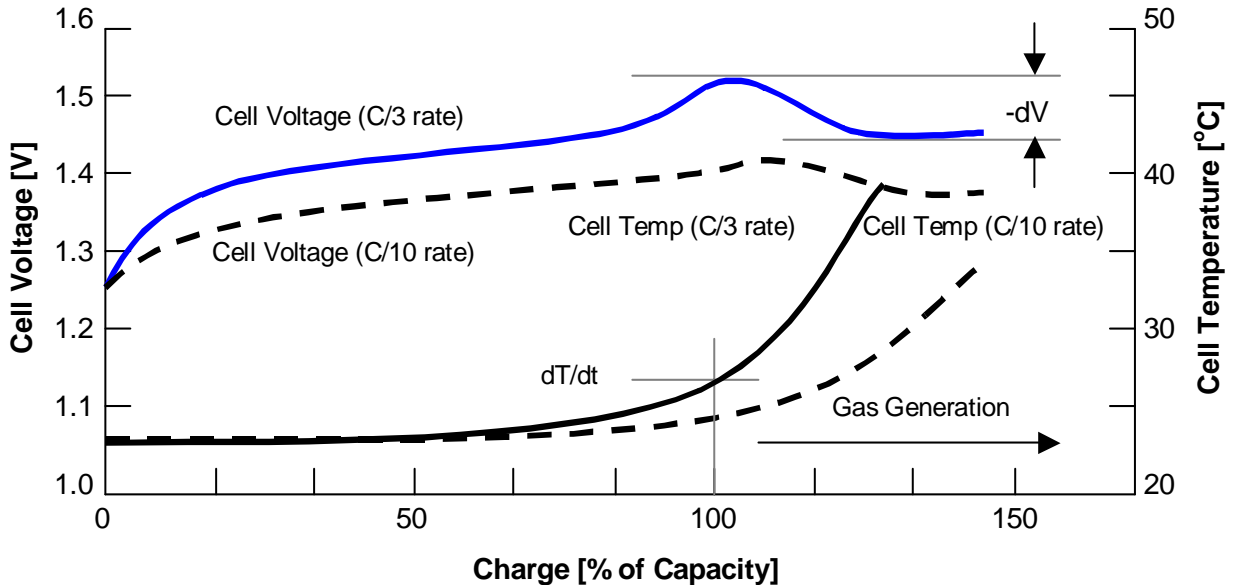
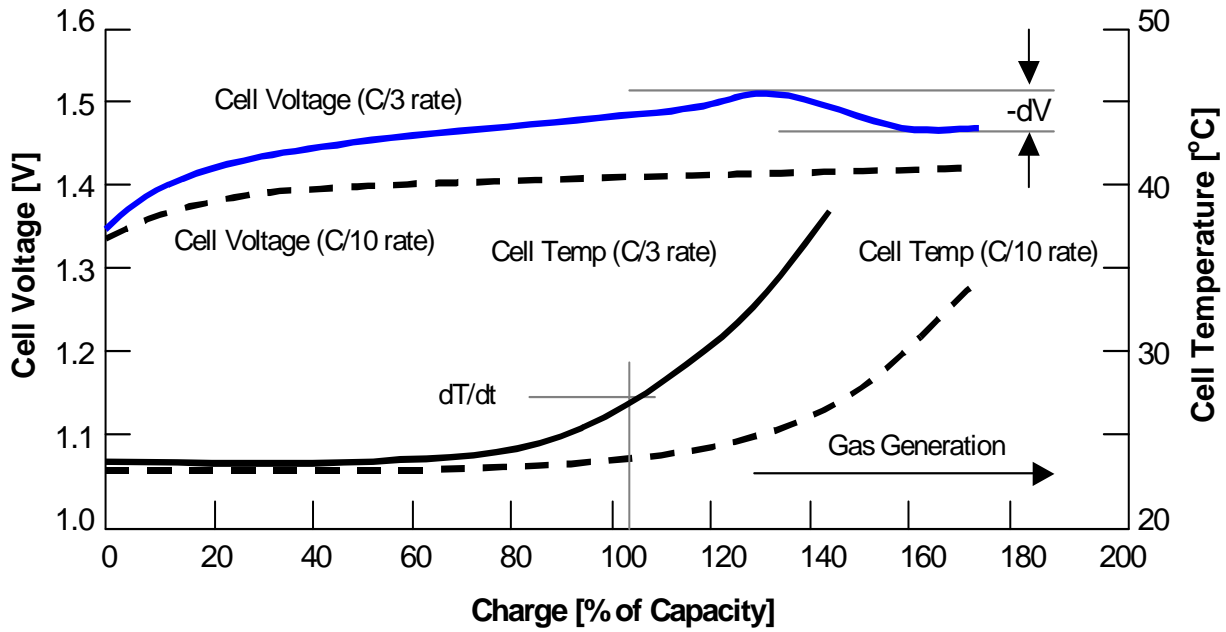

Figure 1. Typical NiCd Battery Pack Voltage and Temperature During Charge
Figure 2. Typical NiMH Battery Pack Voltage and Temperature During Charge
- Controlled Charge Voltage** — When the full charge point is reached, the battery does not accept charging current. Instead, it starts to turn the current into heat (see Figure 1). As soon as the battery pack temperature increases, the charging voltage stops rising, stabilizes at a certain level, and finally starts to decline at the onset of overcharging. This method uses the voltage drop to determine when to stop charging. The controlled charge voltage is useful when charging rates are greater than C/2, otherwise the voltage variation is too small to be detected.
- **Controlled Charge Voltage** — Although this method is often used for NiCd batteries, it may not be effective for NiMH types. With NiMH, the voltage peak is not as noticeable for low charging rates and may not occur at all, especially at higher temperatures (see Figure 2). The voltage monitor circuit must have a resolution of a few millivolts to determine the end of charge. If the monitor circuit is too sensitive, noise and other conditions may cause an early end of charge. Also, the voltage curve as a function of charge condition varies between battery packs—even if they are the same age and type.
6. The system detects when the slope of the battery voltage curve (during the charge procedure) becomes lower than zero ( $\Delta V/\Delta t < 0$ , see Figure 1 and Figure 2).